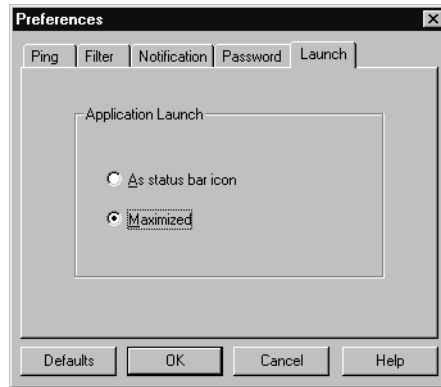

Figure 3-12. Launch Dialog Box
- 7 Click the **Launch** tab to display the Launch dialog box, as shown in Figure 3-12.